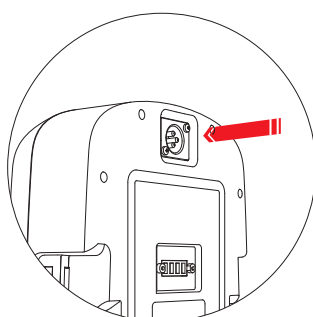

Figure 4.8.2
- Refer to Figure 4.8.2 for a visual guide.